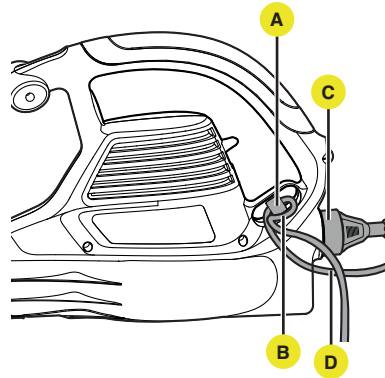

Fig. 7
- Route the extension cord through the side of the loop located on the rear of the blower housing and place underneath the cord retainer. (Fig. 7)